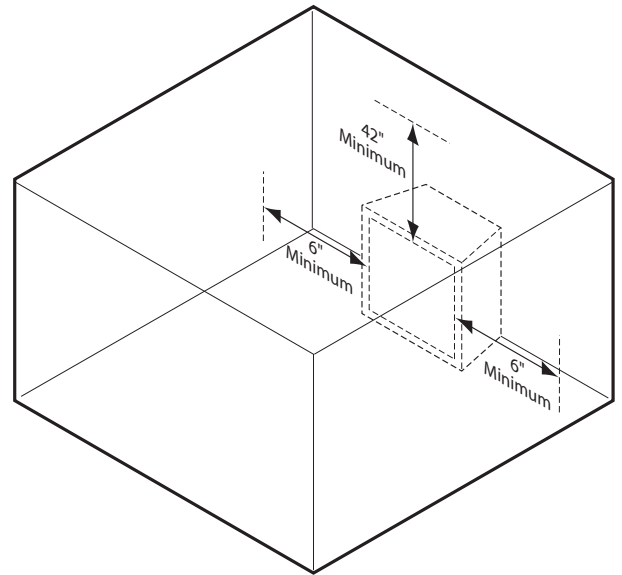

Figure 4 - Clearance and Height Requirements
Ensure that minimum clearances shown in Figures 4 through 7 are maintained. Left and right clearances are determined when facing the front of the firebox.
1. **Sidewall clearances:** The clearance from the inside of the appliance to any combustible wall should not be less than 6". See Figure 4.
2. **Ceiling clearance:** The ceiling must be at least 42" from the top of the firebox opening. See Figure 4.